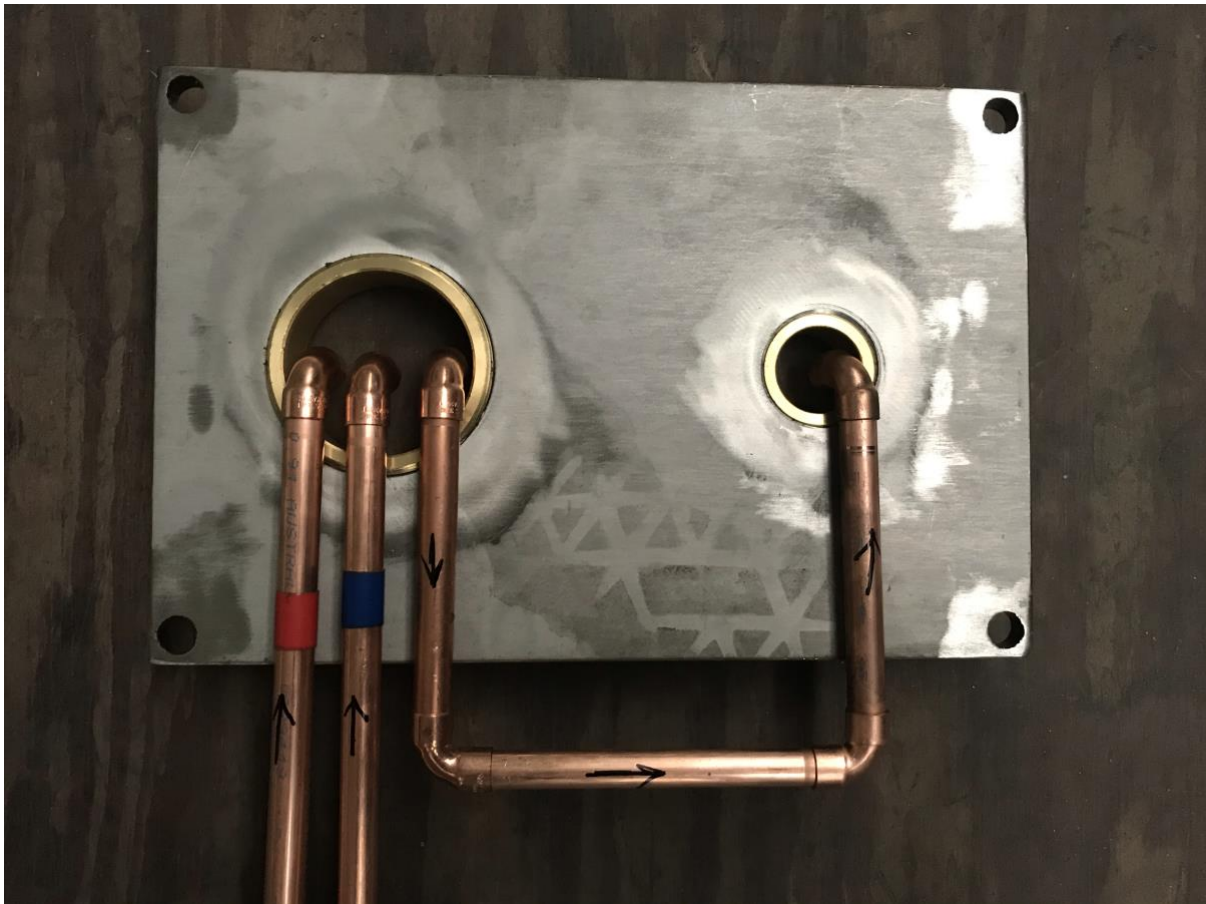

Fig1. Image of underside of baseplate with correct pipework connections.
8. Using construction adhesive, fix the shower into the 12mm holes as per the instructions for the adhesive (Chemset or equivalent recommended). Once the adhesive has cured, level the shower with the nuts and washers and make final plumbing connections to the site hot and cold water supply. Connect the outlet of the tap standpipe to the inlet of the shower standpipe, as per fig. 1.
- 7. Remove the shower and baseplate from the holes and using two 15mm copper elbows, extend the hot and cold shower pipes, such that they stick out horizontally from the underside of the stainless steel baseplate (Fig 1.). These two pipes should be at least 200mm proud of the baseplate and when the shower is in position, will end up being horizontal and positioned between the concrete and the underside of the stainless steel. Using the threaded elbow supplied, extend the inlet for the shower pipe so as it is also clear of the baseplate (Fig 2)**